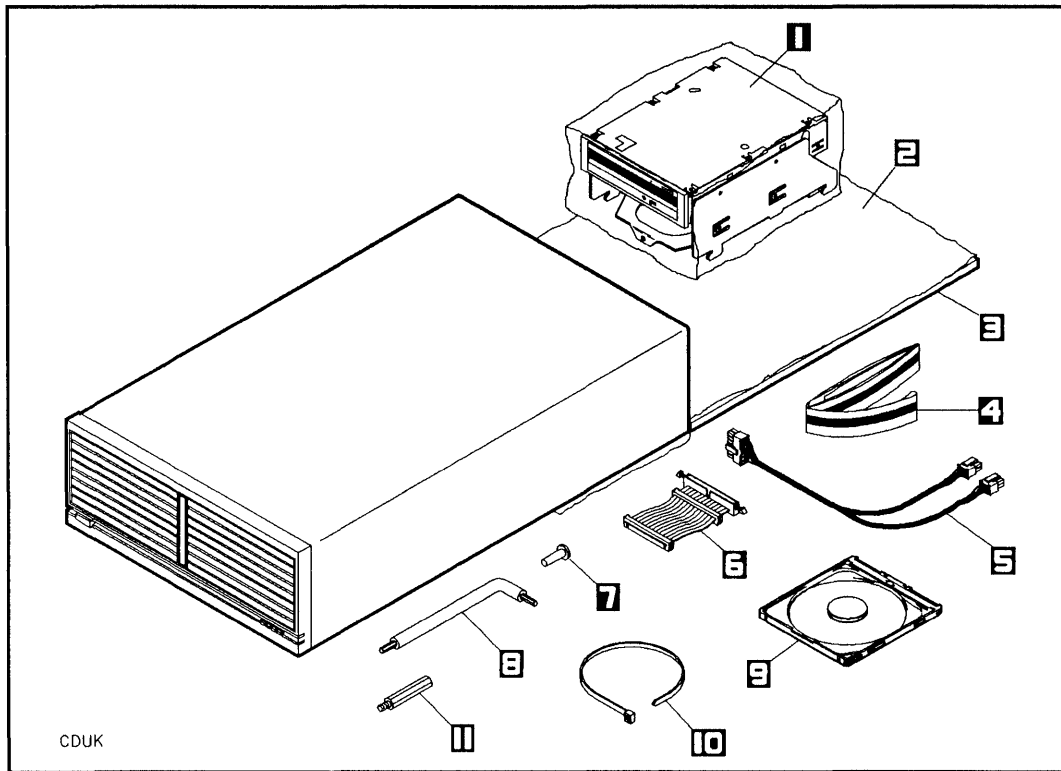

Figure 4-4. CD-ROM Drive Upgrade Kit Contents
The first step to installing a CD-ROM drive into your mass storage system is to unpack and identify the contents of the C2293A upgrade kit. Figure 4-4 shows the contents of the C2293A upgrade kit.
7. Place the rear of the mass storage system chassis on the conductive sheet as shown in Figure 4-4.